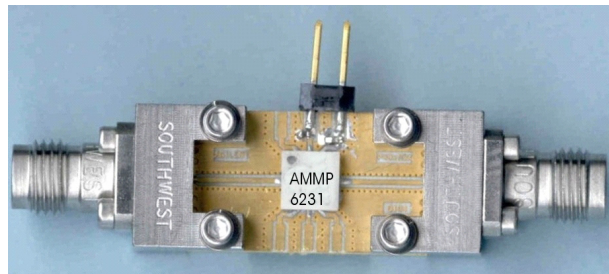

Figure 14. Evaluation / Test Board (Available to qualified customer requests)
1. S-parameters are taken with the Evaluation Board as shown in Figure 14. Effects of board and connector are included in the graphs. Loss of board and connector are de-embedded from Gain data.